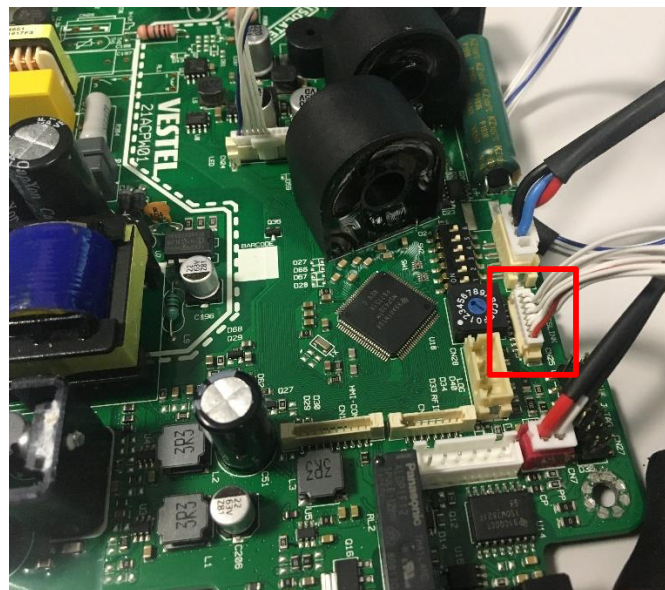
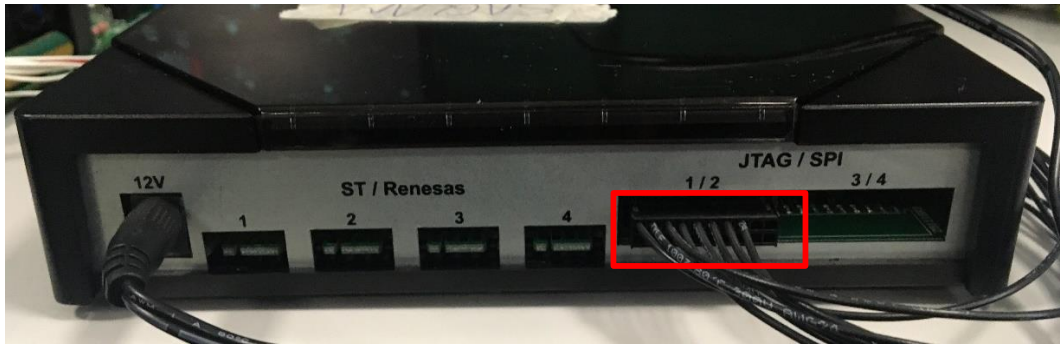

Figure 5-7
Figure 5-8
Step 6. Firstly make sure that EVC is de-energized and make connection with special cable (Cable 7) between WG-VESTA Veslink device socket and SW update socket (CN25 Veslink) on main board as shown in Figure 5.7 and Figure 5.8.